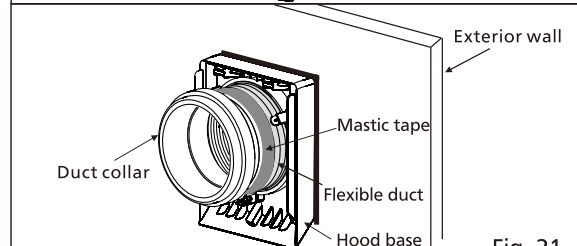

Fig. 21
- Join the flexible duct and duct collar with mastic tape. (Fig.21)